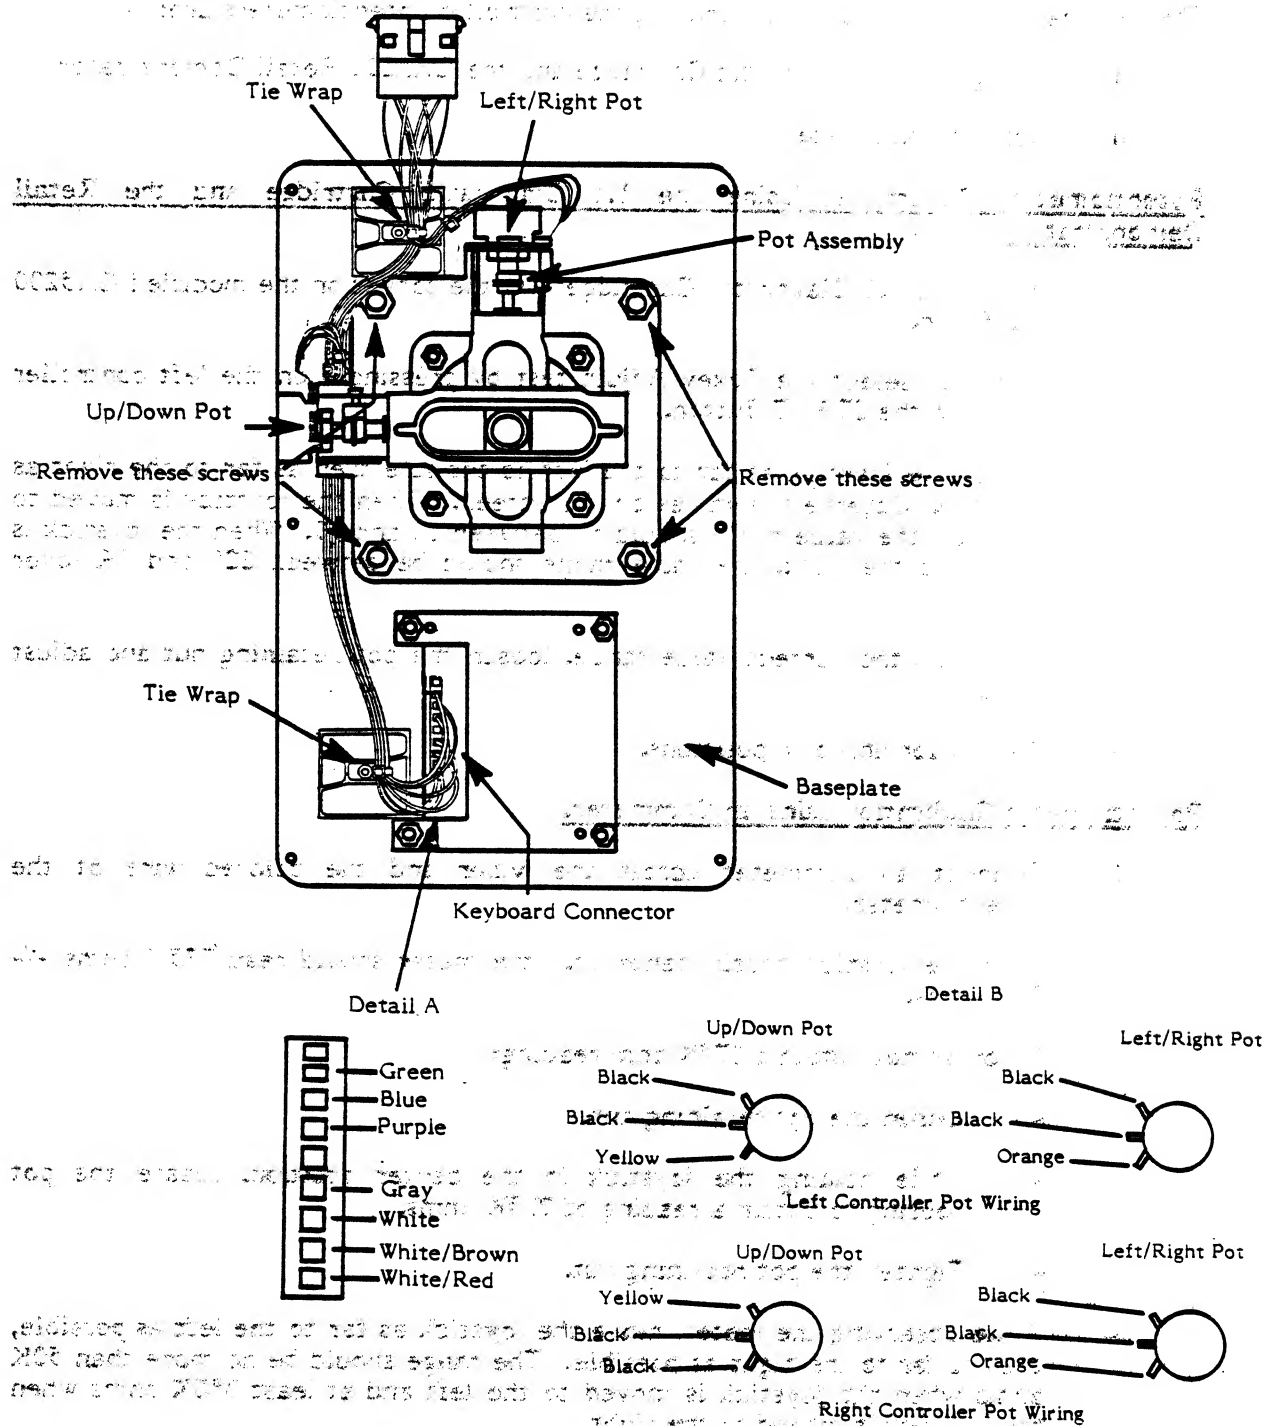

Figure 6-1. Joystick Gimbal and Wiring Detail
Use Figure 6-1 as reference for the following steps:
7. Swap some of the wires on the two pots to conform to the new directions they operate on (i.e. left/ right pot becomes up/down pot). See detail figure 6-1 for proper wire locations (3 wires will have to be swapped: the yellow, the orange and one black).
8. Plug in the keyboard connector. Make sure polarity is correct (See Detail, Figure 6-1).